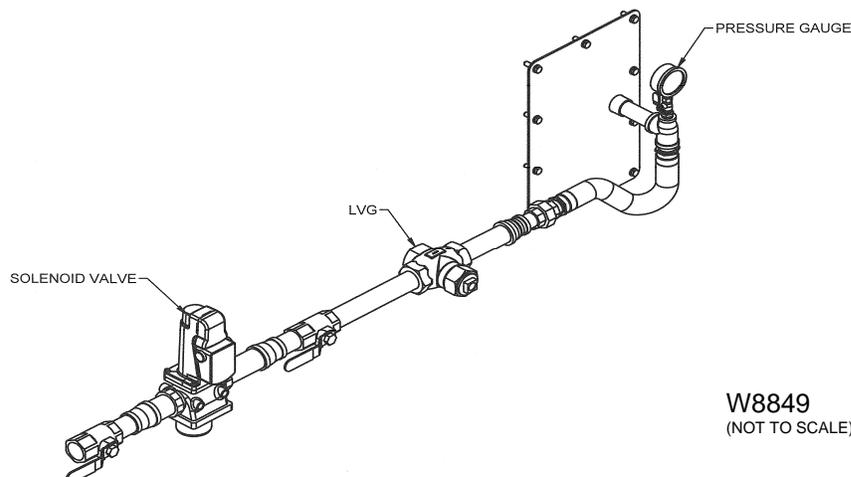

Figure 13. Center Gas Manifold
- B. The center gas is a separate fuel connection to the burner, with its own manifold shown in Figure 13. Center gas pressure should be adjusted to the range of 0.5 – 1 psig (3.4-6.9kPa) using the pressure gauge and LVG (limiting orifice valve) on the center gas manifold. Turn the adjusting screw on the LVG counter-clockwise to increase and clockwise to decrease the gas pressure. The center gas may be utilized with low main gas flow to provide minimal heat input for extended pre-heat of the dryer and exhaust systems.